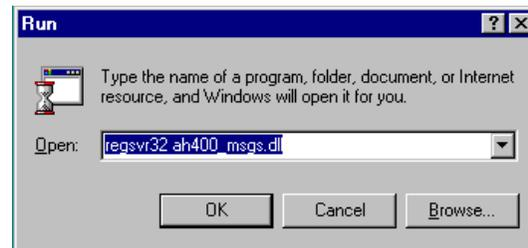

Figure 6-37—Run window
- 2c) Type **regsvr32 ah400\_msgs.dll** See *Figure 6-37*.